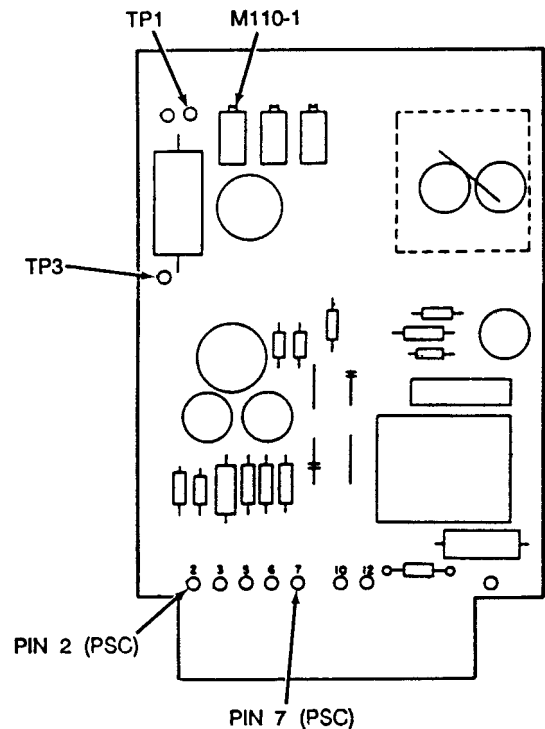

Figure 3-1. Temperature Controller Card Calibration Points
- On temperature controller card, Figure 3-1, connect jumper wire from TP3 to either Pin 2 or Pin 7.
- Set voltmeter to read DC millivolts (MV).